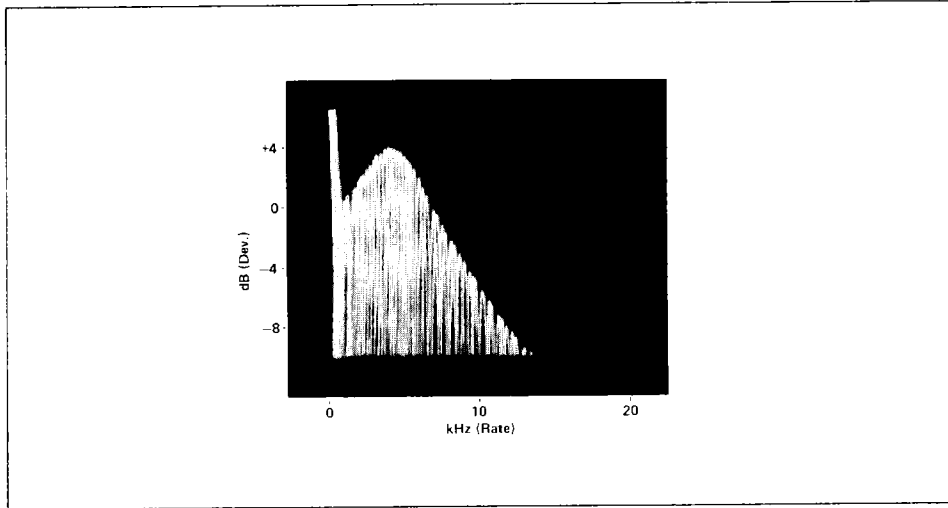

Figure 9. PLL Frequency Response Obtained Using the Test Setup Shown in Figure 8.
2. If the spectrum analyzer has variable persistence, turn it to maximum and slowly vary the audio oscillator frequency. The resulting display is the PLL frequency response (see Figure 9). If variable persistence is not available, the sideband level could be manually recorded.